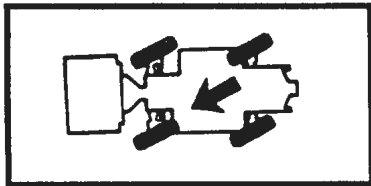

Figure 5-9. Crab Steering
2. **Crab** (all wheels track in the same direction; steering mode selector in rearward position): Crab steering is used to move away from buildings or escape from wheel ruts. Refer to Figure 5-9.